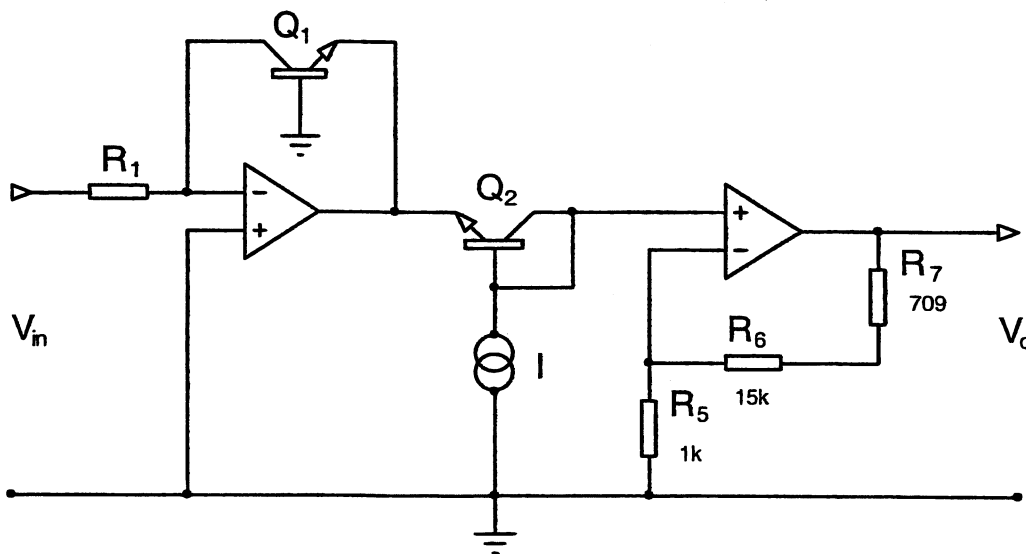

Fig 4.
4. a) In the "logarithmic amplifier" shown in Fig 4, why is a pair of transistors  $Q_1$  and  $Q_2$  used rather than diodes? Why is a transistor with a current gain of 300 or more desirable? Write brief notes about the main features of the arrangement of the circuit. [35%]